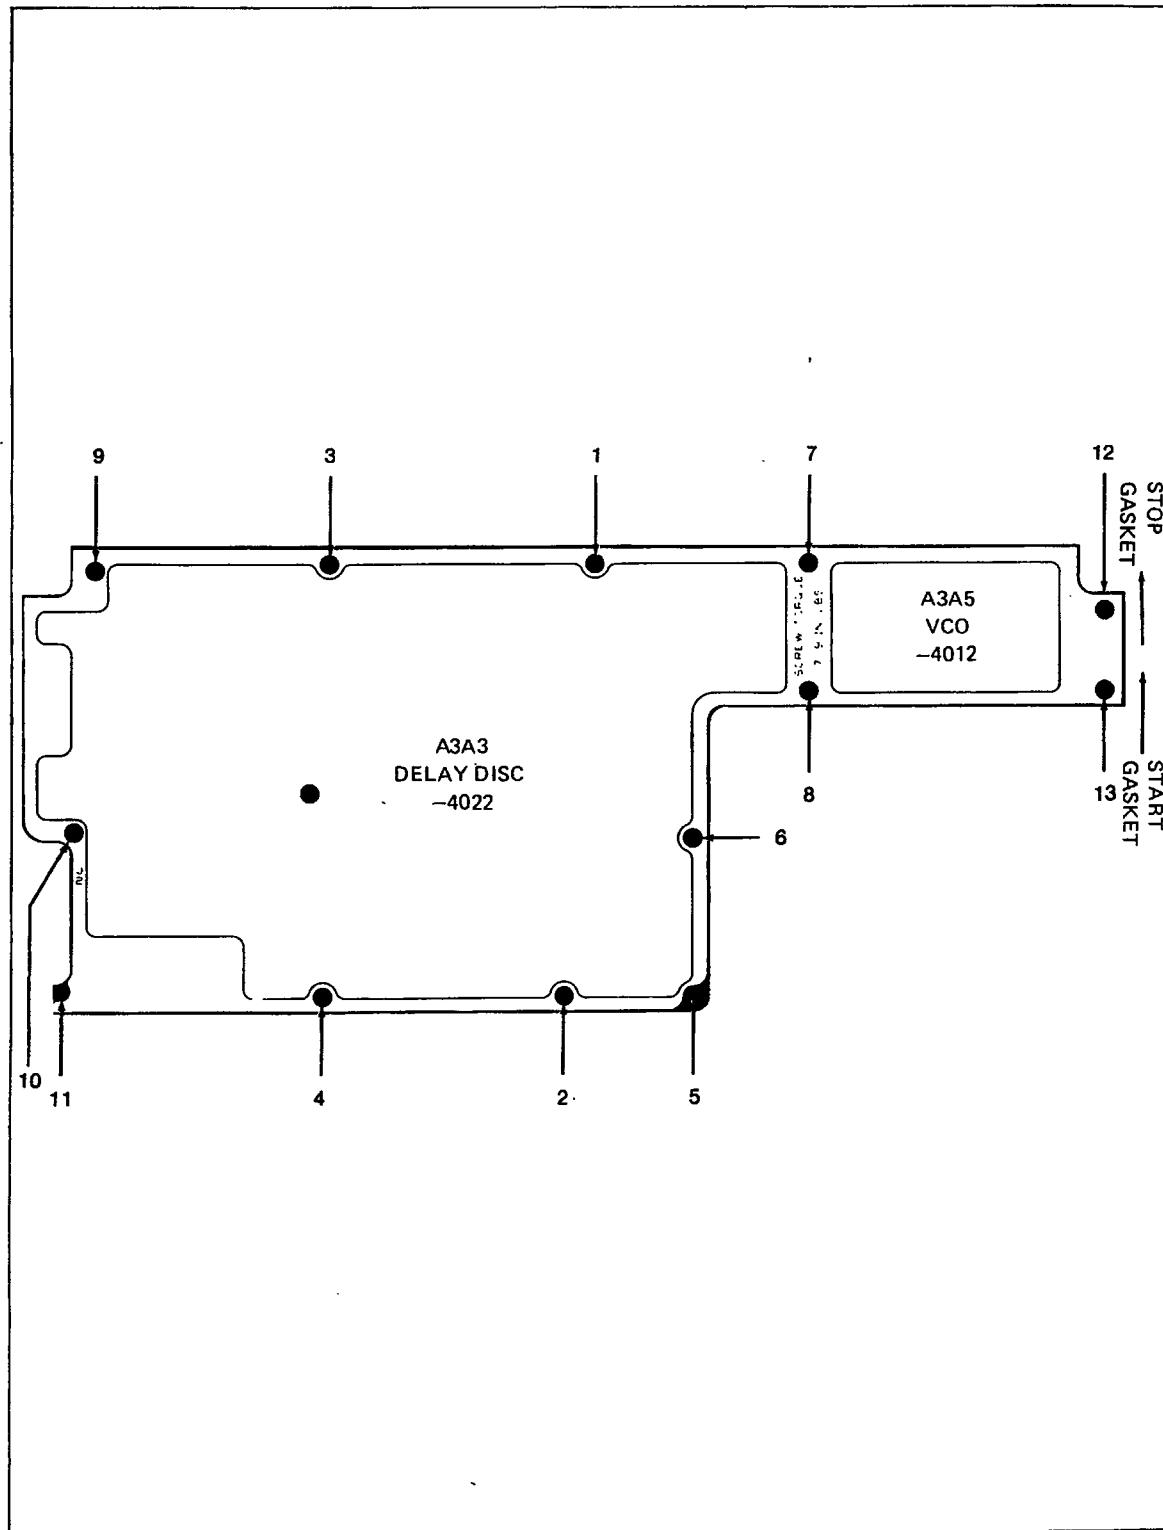

Figure 3-6. Torque Sequence, A3A3, A3A5 Cover
3-14. The A3A3 Delay Discriminator PCB and the A3A5 VCO PCB access procedure consists of removing the module cover. After the module cover has been removed, the cover screws must be properly torqued to insure specified RF integrity. Figure 3-6 illustrates the sequence in which the screws must be torqued.
- c. The end of the gasket must continue past the beginning of the gasket (at screw 13) to screw 12 (Figure 3-6).
- a. Torque all the screws to 3 inch-pounds in the numerical sequence shown in Figure 3-6.
- b. Torque all the screws to 7 to 9 inch-pounds in the numerical sequence shown in Figure 3-6. The torque value should be the same for all screws.